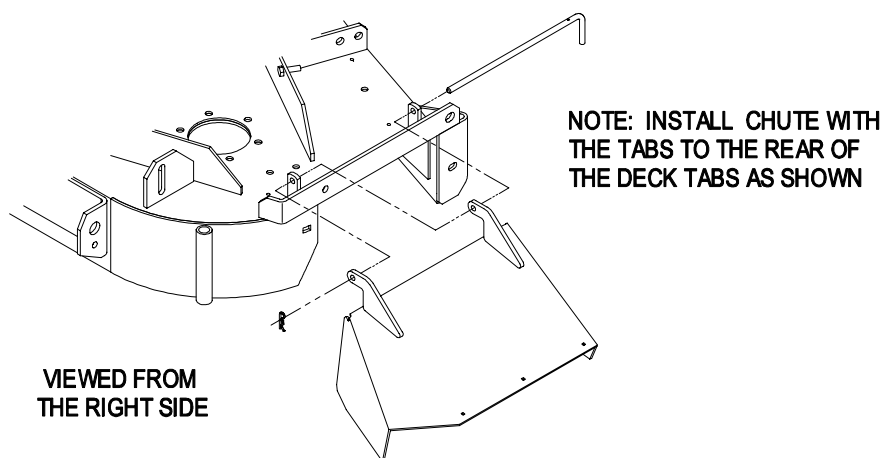

FIGURE 4
- c) Remove two (2) capscrews connecting the discharge chute to the deck. Remove the discharge chute.
- d) Re-Install the discharge chute using the chute pivot pin (Item 18) and hairpin (Item 19) provided as shown in Figure 4.